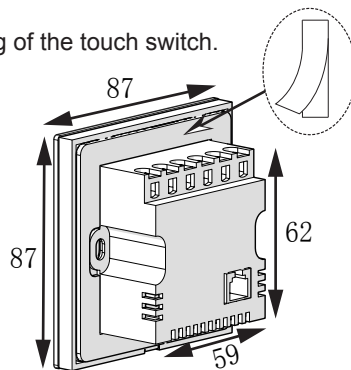

Figure 18
- Tear off the release paper of the double-sided adhesive tape on the rear cover of the touch switch, as shown in Figure 18.